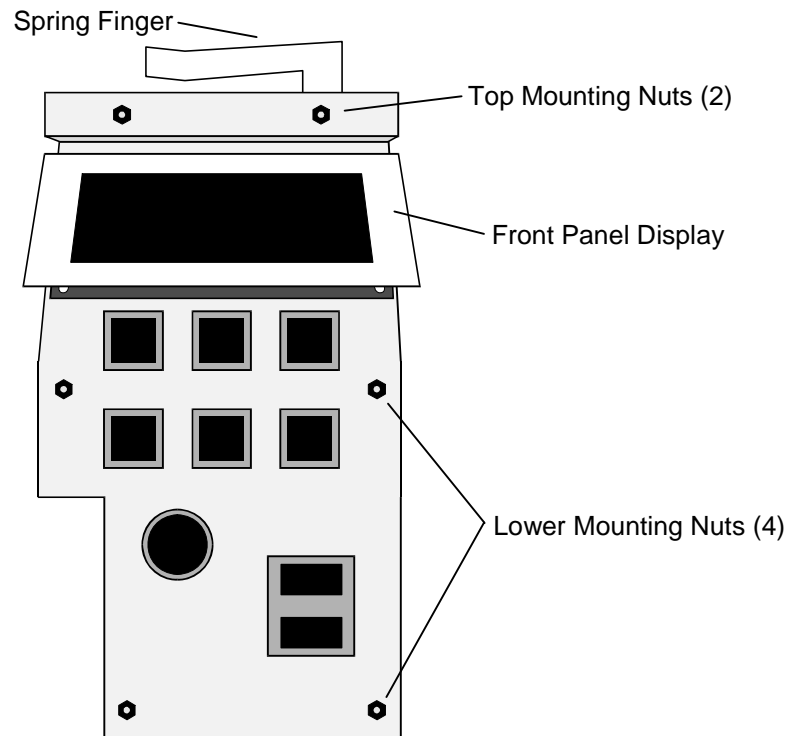

Figure 7-26 The Switch Bracket Assembly (Front Panel)
3. Remove all six mounting nuts from the Switch Bracket Assembly mounting studs using a 1/4-inch nutdriver (Figure 7-26).
12. Remove all six mounting nuts from the Switch Bracket Assembly mounting studs (Figure 7-26).
13. If the spacers and the Spring Finger were removed, mount the Spring Finger onto the top two mounting studs, then place two spacers onto the top two mounting studs. Place the four remaining spacers onto the four lower mounting Studs (Figure 7-26).
14. Slide the Switch Bracket Assembly onto the mounting studs (Figure 7-26).
15. Thread all six mounting nuts onto the mounting studs, then use a 1/4-inch nut-driver to tighten the mounting nuts until they are snug (Figure 7-26).